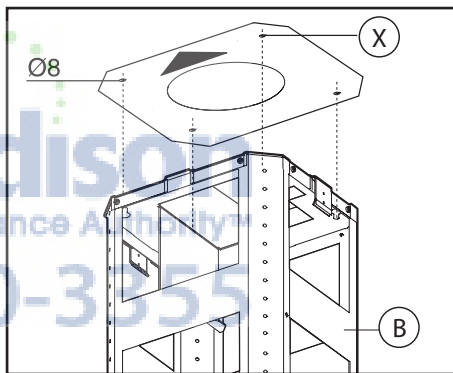

Fig.2
- Position hole template on the ceiling paying attention that the arrow is positioned on the same side as the appliance controls (**Fig.2**).